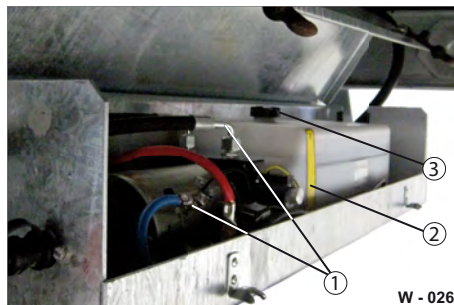

Fig. 30 Checking the oil fill quantity
- Check the fluid level in the hydraulic fluid tank (Fig. 30/1).